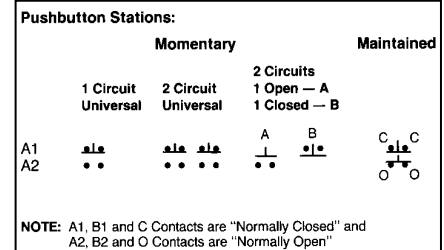

Figure 2A
- Make the electrical connections utilizing the wiring scheme established for your system. Unit is ready for wiring to devices mounted in the cover. It is not necessary to remove any device from the cover for field wiring. See Figures 2A and 2B for the contact diagrams of pushbutton stations and selector switches. The field wiring terminals on the switch units used for pushbutton or selector switch stations are marked. The -|/- and "O" indicates normally open contacts; and -|/| and "C" indicates normally closed contacts of the switch. These contact blocks are provided with binding screw terminals.